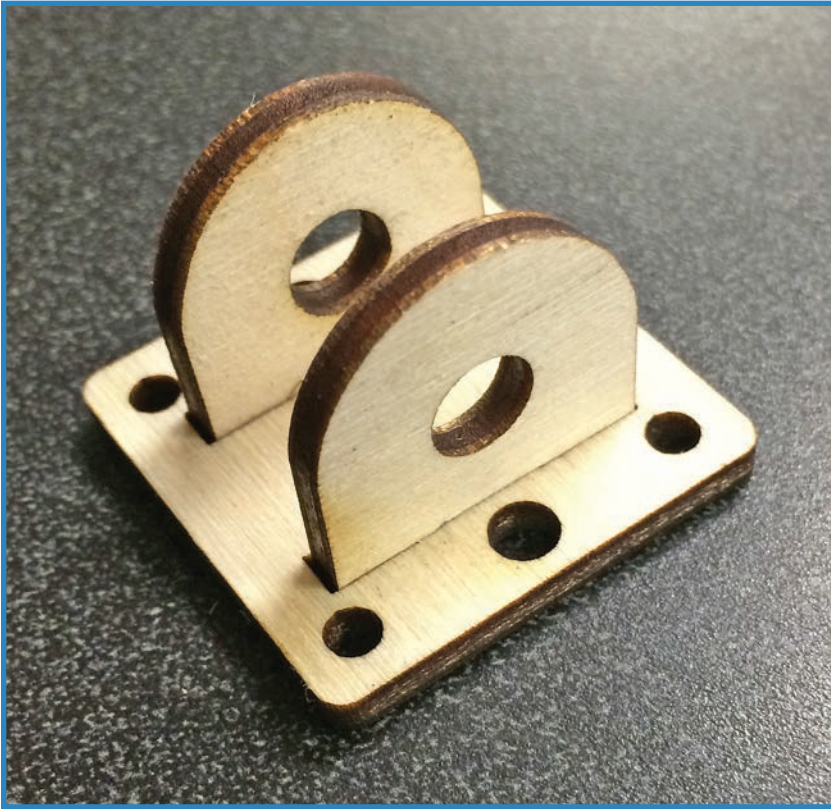

FIGURE 7.8 Assemble and glue the motor mounts.
3. While the washers are drying, assemble and glue the motor mounts. You can see one of them in Figure 7.8—you'll need two, one for each motor.